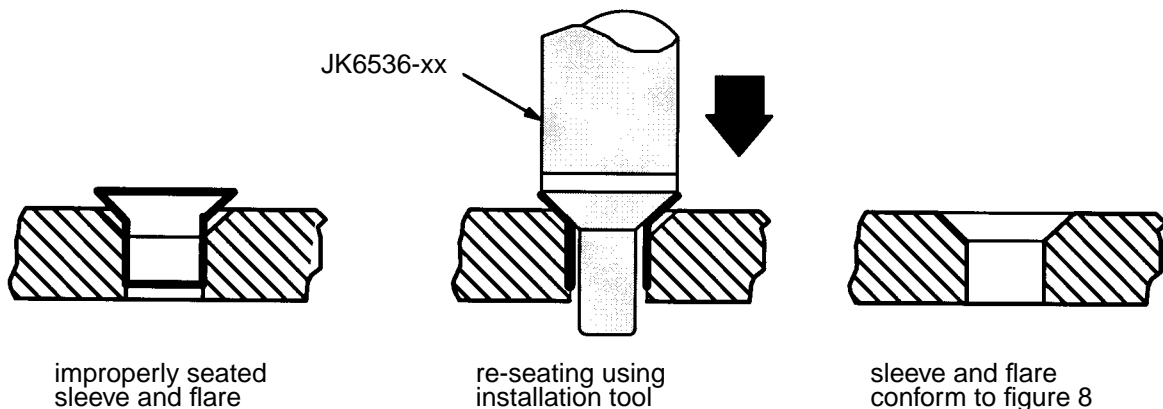

Figure 6 - Repair of Sleeve Flares
- 5.6.1 If the sleeve flare is above flush or, a visible gap exists between the flare and the prepared countersink, repair as follows (see Figure 6).